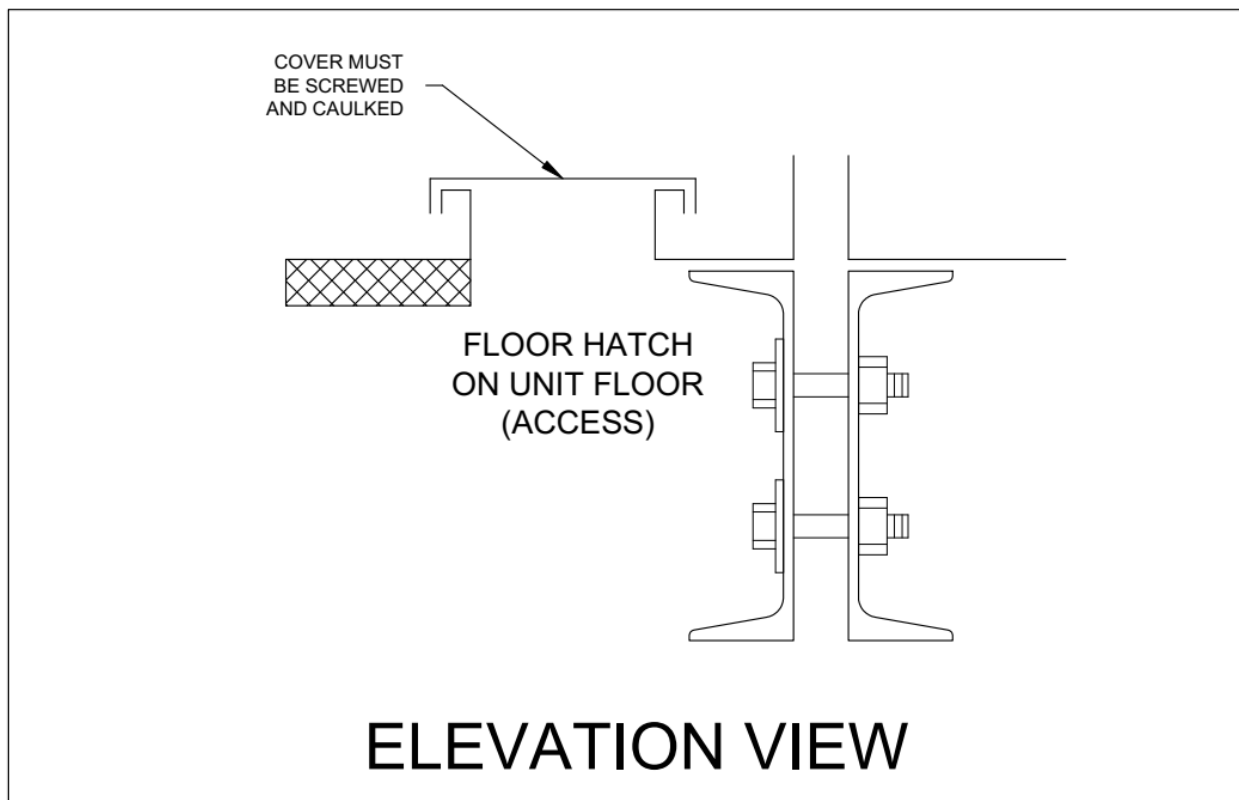

FIGURE 2
11. Lift the last section to the top of the roof curb using all provided lifting lugs. This section will have to overhang the end of the curb temporarily while the removable lifting lugs are being removed. Once removed, join the last section as per step #7 above. Access under the unit to be either through the ceiling of the building from below or through unit floor hatches when provided (Figure 2). Once unit is joined, all floor hatches must be fastened and caulked with provided covers.